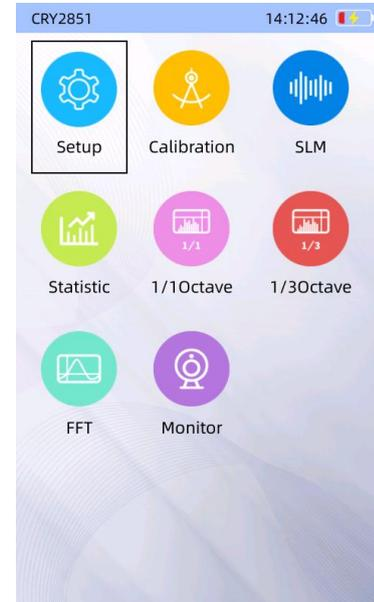

Fig 6.1 Main Interface on Startup
3. As shown in Figure 6.1, the current function menu includes settings, calibration, sound level meter, statistical analysis, 1/1 octave band, 1/3 octave band, spectrum analysis, and monitoring applications. Enter the corresponding application interface by clicking or using the buttons.